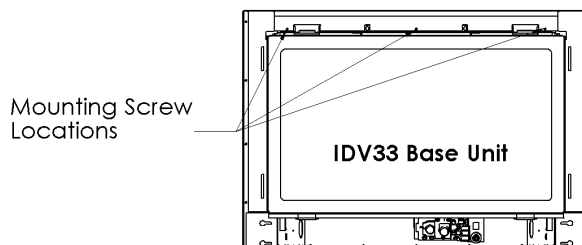

Fig. 1A - Base unit.
5. For I33CV/I36CV models only: Reattach the Top Filler (Fig. 1A) with three [3] screws before installing the I33CV/I36CV Fronts.